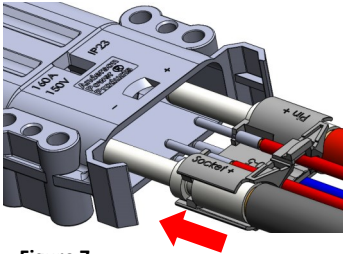

Figure 7
8. Install the fully assembled contact holder into the pin housing (Figure 7):